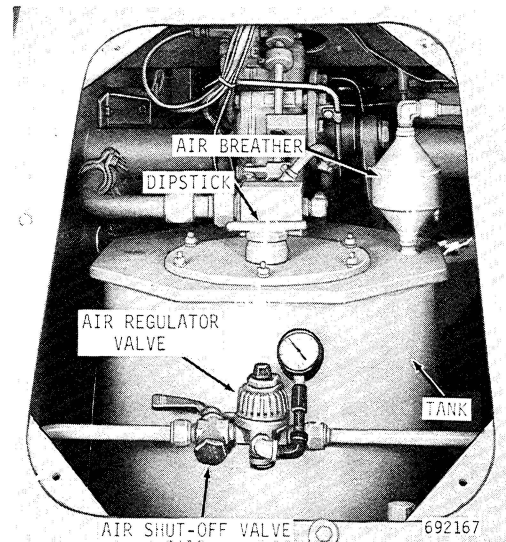

Figure 6
**WARNING:** This is a pressurized system. Before performing any service on the hydraulic and steering system, close the air valve and loosen dipstick/filler cap slowly to release air pressure. Figure 6.